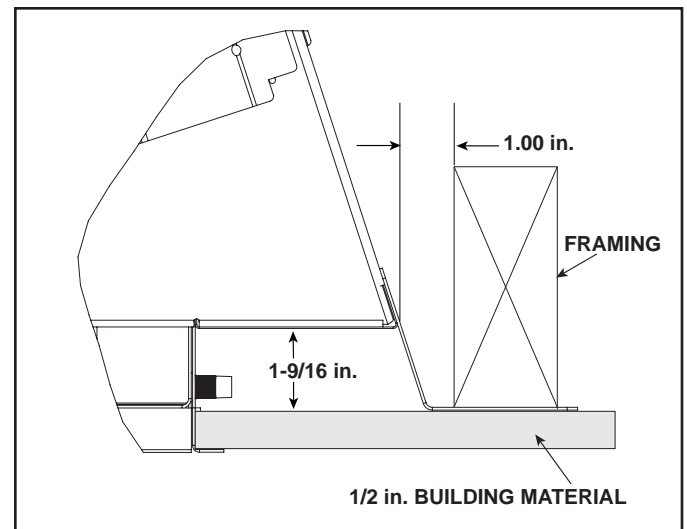

Figure 13.3 Front Side Finishing Detail
2. Screw each nailing tab to the adjoining framing material. Ensure that the 1" air space clearance is maintained on the sides of the fireplace. See Figure 13.3.